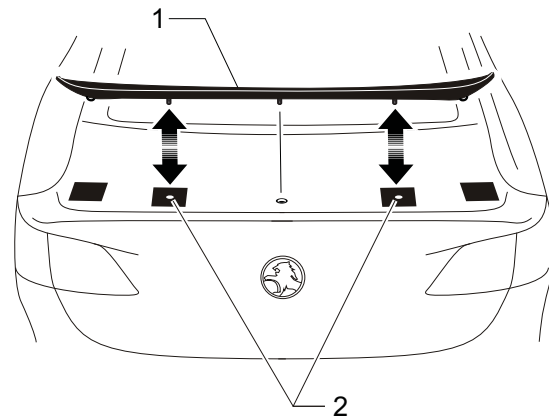

FIGURE 6
13. When the spoiler is aligned push the lip spoiler (1) down onto the tape on the decklid at that position. Lift the lip spoiler off the decklid cleanly to prevent the paint marks (2) smudging. refer to figure 6.